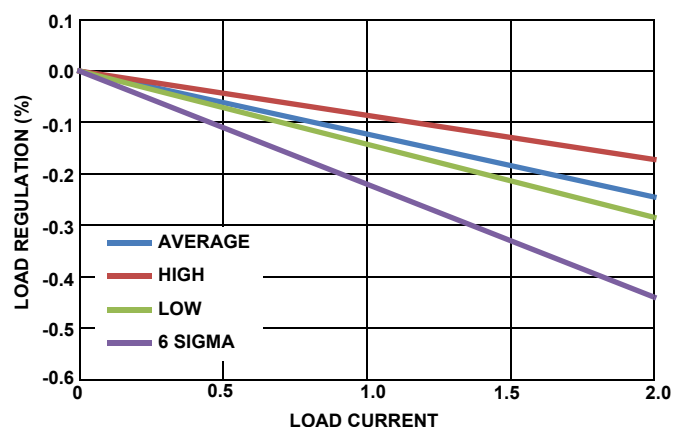

FIGURE 12. LOAD REGULATION, $T_A = +105^\circ\text{C}$, 2.7V_{IN} , 0.6V_{OUT} , 1MHz
- Not tested in production. Characterized using evaluation board. Refer to Figures 12 through 14 load regulation diagrams. $+105^{\circ}\text{C}$ T_A represents near worst case operating point.